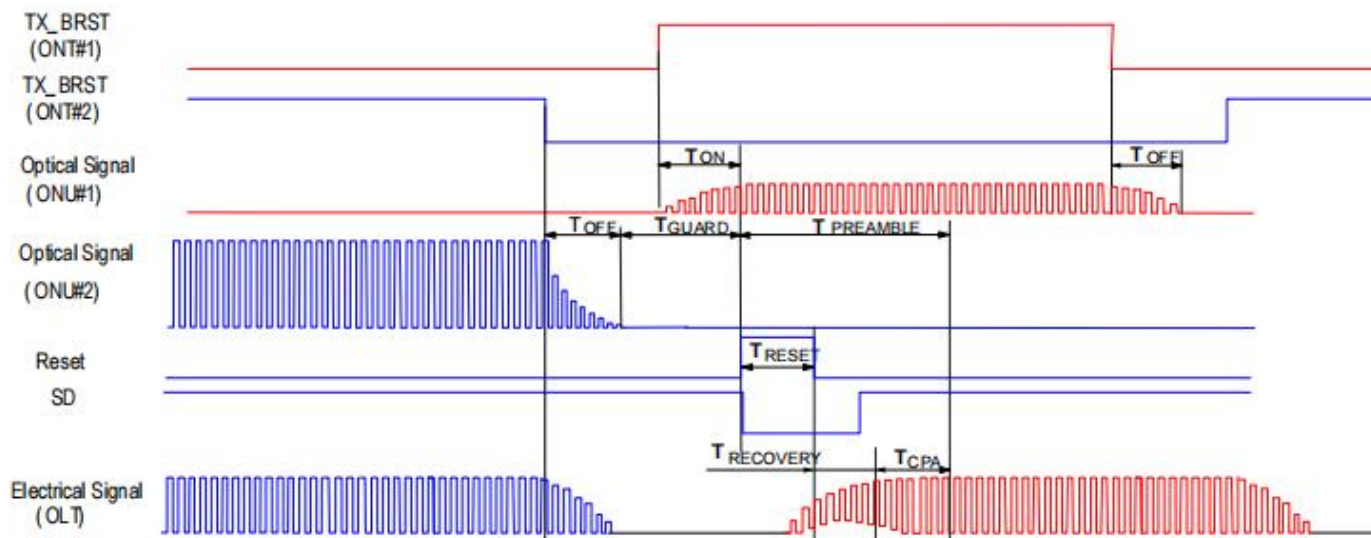

Figure 3 Burst Receiver Timing Sequence
• Figure 3 Burst Receiver Timing Sequence